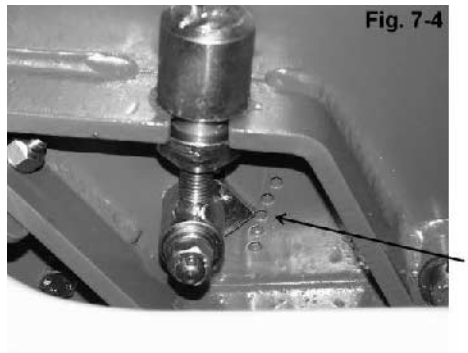

Fig. 7-4
7. Care must be taken to ensure that the cage roller is equally adjusted on both sides. For this purpose, a check scale has been fitted (Fig. 7-4).